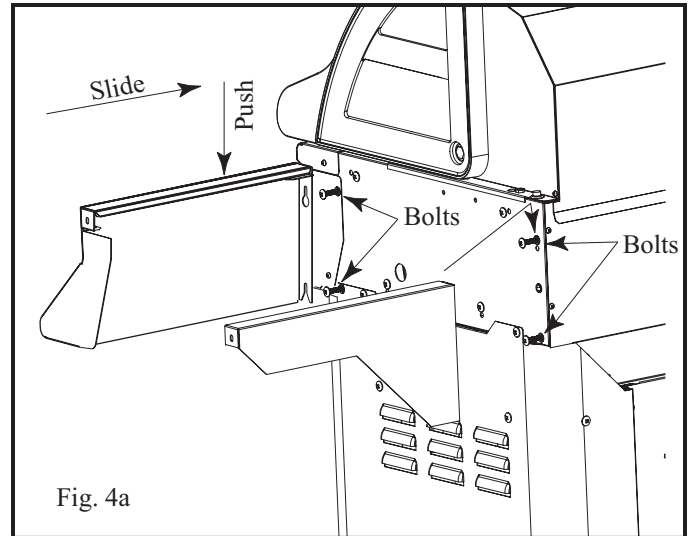
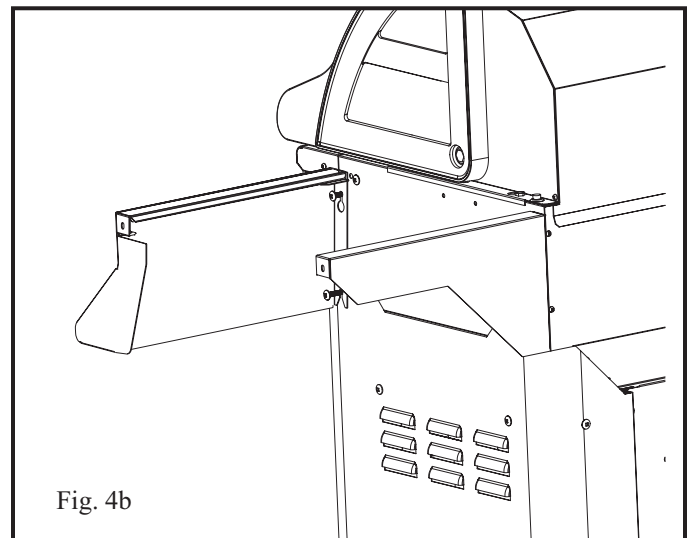

Fig. 4a
Fig. 4b
- (1) Right Condiment Tray
- (8) 1/4-20 x 1-1/2" Bolts
**Note:** Only the right side assembly is shown in Fig. 4a and Fig. 4b. To install Left Side Support and Condiment Tray, repeat this step for the left side.